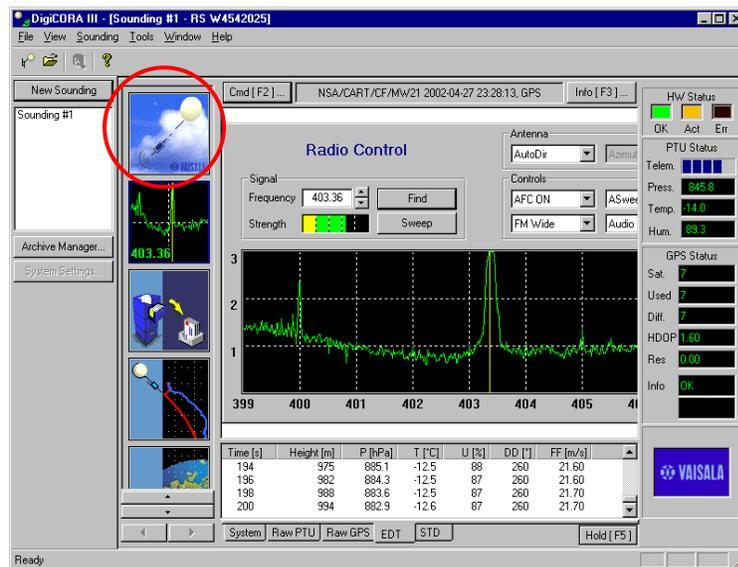
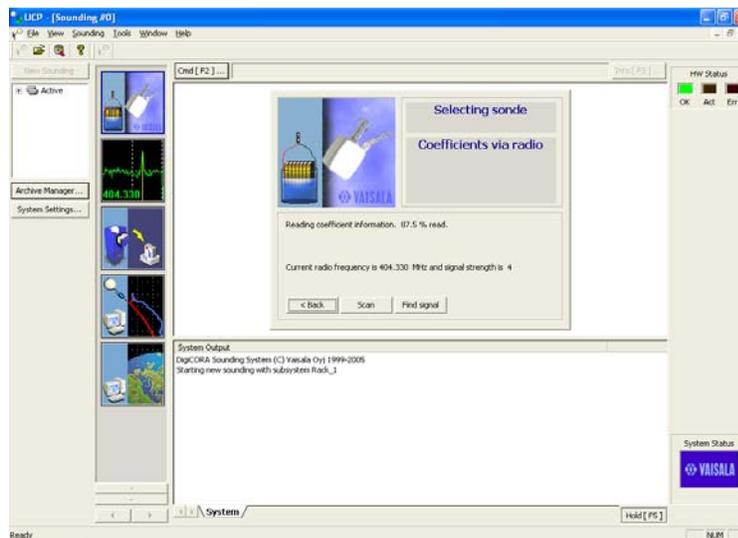

Figure 6
Figure 7
29. Once the system has found the radiosonde, click on the top left icon (see Figure 6) to get back to the control screen. You should see a screen as shown in Figure 7.